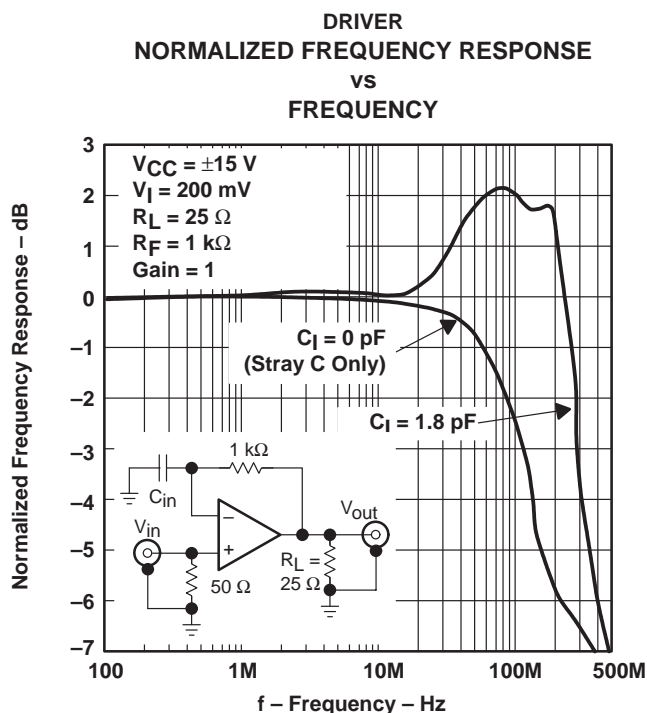

Figure 56. Driver Normalized Frequency Response vs. Frequency
- **Input stray capacitance** – To minimize potential problems with amplifier oscillation, the capacitance at the inverting input of the amplifiers must be kept to a minimum. To do this, PCB trace runs to the inverting input must be as short as possible, the ground plane must be removed under any etch runs connected to the inverting input, and external components should be placed as close as possible to the inverting input. This is especially true in the noninverting configuration. An example of this can be seen in Figure 56, which shows what happens when 1.8 pF is added to the inverting input terminal in the noninverting configuration. The bandwidth increases dramatically at the expense of peaking. This is because some of the error current is flowing through the stray capacitor instead of the inverting node of the amplifier. Although, in the inverting mode, stray capacitance at the inverting input has little effect. This is because the inverting node is at a *virtual ground* and the voltage does not fluctuate nearly as much as in the noninverting configuration.